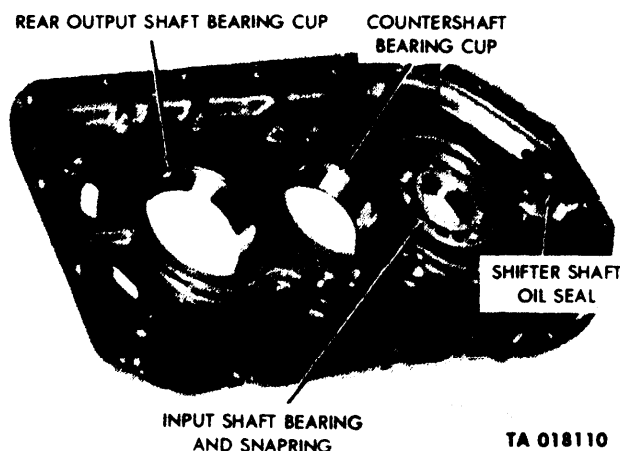

Figure 4-17. Transfer Case Cover Disassembly.
(1) Press input shaft front bearing and snapping (fig. 4-17) from the front cover using suitable remover and replacer (item 6, table 2-1).
(2) Using a suitable tool, remove the shifter shaft oil seal (fig. 4-17) from cover.
(4) Remove snapping and press rear output shaft bearing cup (fig. 4-17) from the front cover using a suitable remover and replacer.
- d. Transfer case cover (fig. 4-17 and 4-18).